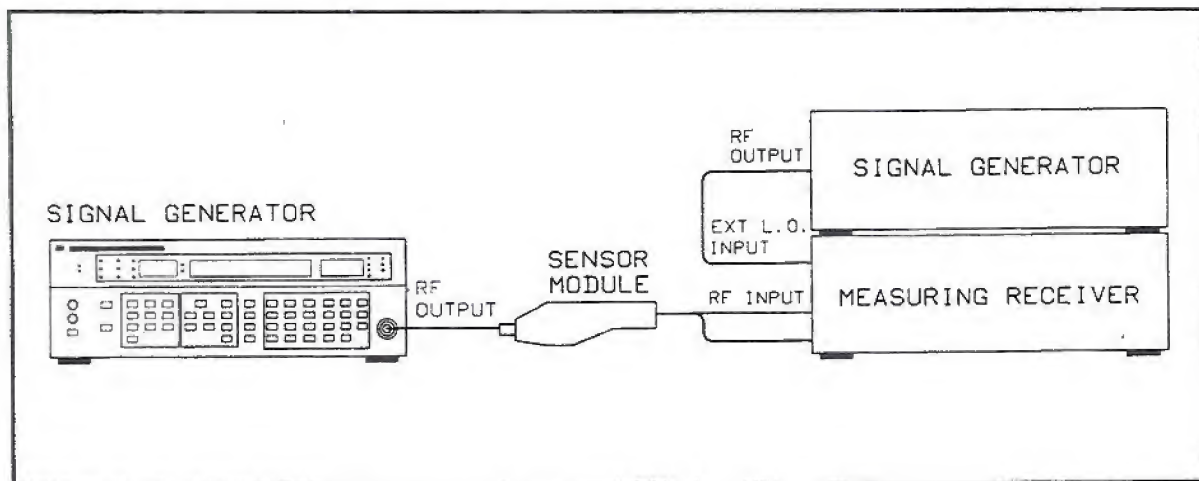

Figure 4-5. Optional Residual Test Setup
16. Connect the test equipment as shown in Figure 4-5.